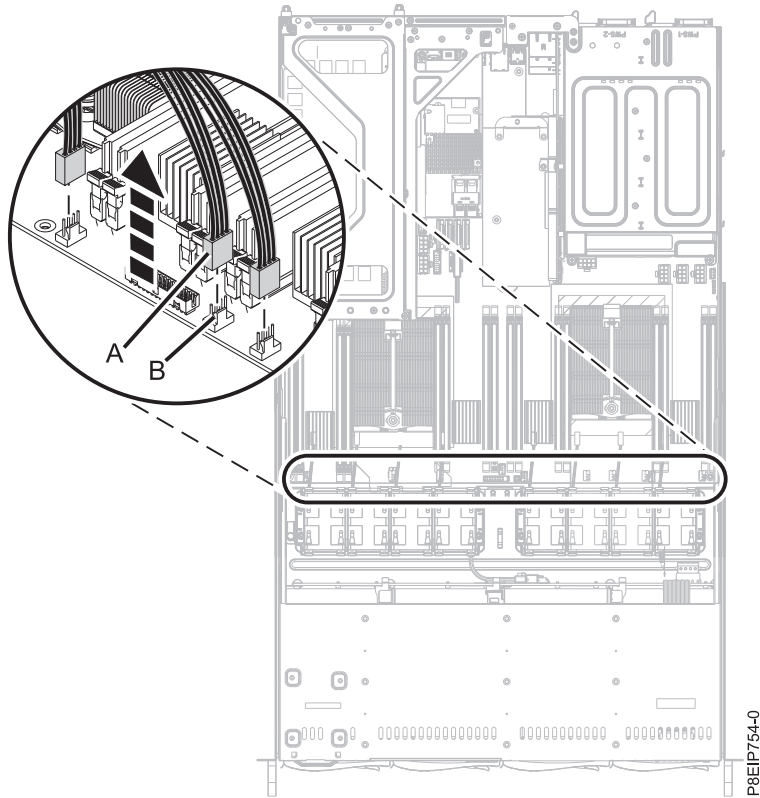

Figure 13. Disconnecting the fan cable
5. To disconnect a fan cable, release the connector clip (**B**) and carefully pull up the connector (**A**) from the system backplane, as shown in Figure 13 on page 17. Do not pull on the wires. Feed the cable through the fan holder.